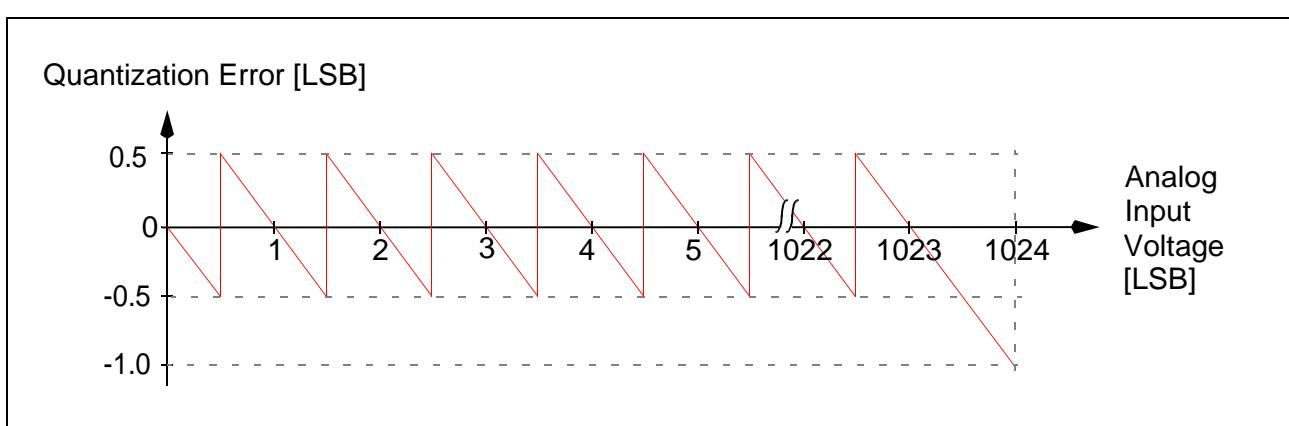

Figure 2      Quantization Error
The quantization step size is  $1 \text{ LSB} = V_{\text{AREF}} / 2^r$ . According to the Ideal Transfer Curve (1) the first digital transition, from 0 to 1, occurs at the analog value of 0.5 LSB. That is why the first step width of the Ideal ADC Transfer Curve (2) is 0.5 LSB and the last step width is 1.5 LSB. The inherent quantization error in relation to the analog input voltage is shown in **Figure 2**